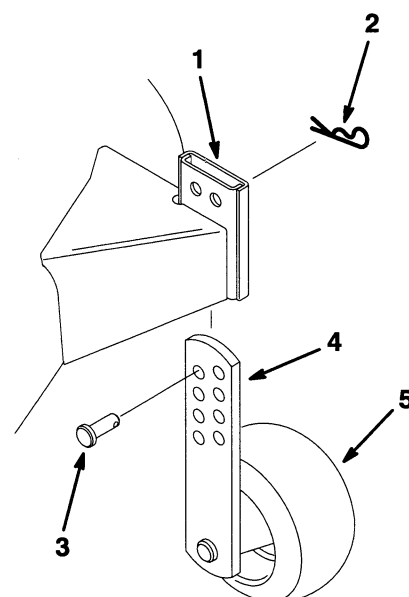

Figure 23
1. Pull the hairpin cotter out of the clevis pin and remove the clevis pin from the gauge wheel plate and mounting bracket (Fig. 23).
2. Reposition the gauge wheel so it's approximately 1/4" to 3/8" (6 to 10 mm) above the ground, then insert the clevis pin through the gauge wheel plate and mounting bracket (Fig. 23).
3. Reinstall the hairpin cotter into the clevis pin (Fig. 23).